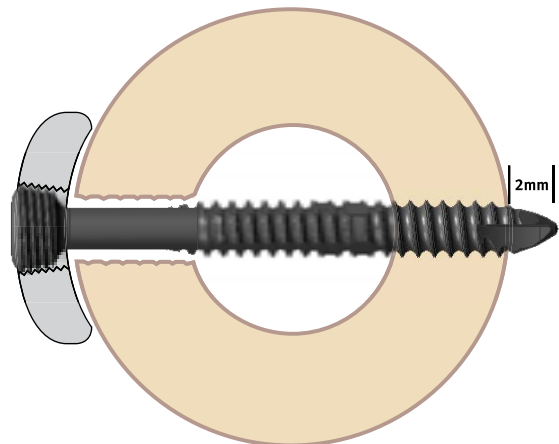

Fig. 9
*MotionLoc* screws should fully engage the far cortex (Fig. 9). Use the 4.5mm Locking Screw Depth Gauge to obtain a screw length reading. Add 2mm to that reading to select the appropriate *MotionLoc* screw length.